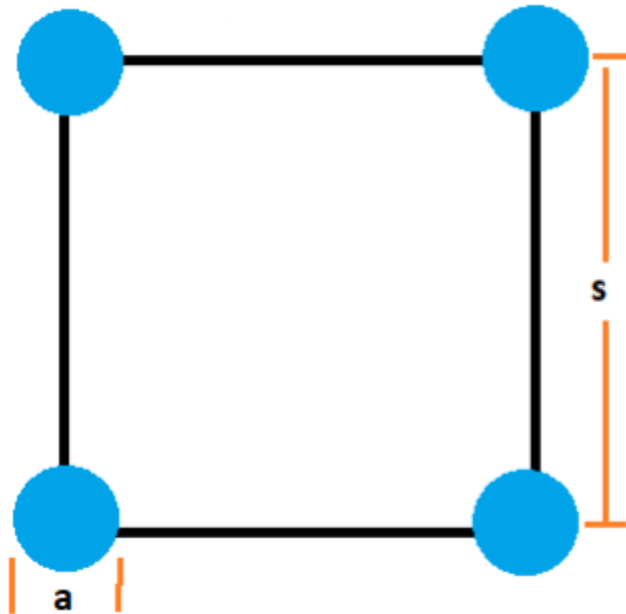

Figure 1.
- 1) Analyze the reasons for choosing fibers of lower diameter while preparing FRPs. (3)
- B) Discuss the classification of composites based on the form of reinforcement and matrix material. (3)
- C) Assume that the fibers in a composite lamina are arranged in a Square array as shown in figure 1 below. Determine the maximum fiber volume fraction that can be picked in this arrangement. (4)